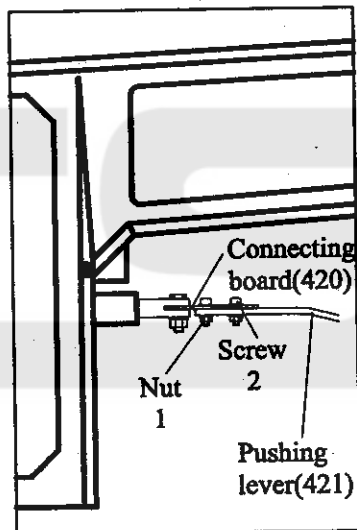

Fig 12
- Loosen nut 1 and screw 2, unconnecting the Connecting board (420) and the Pushing lever (421). (as shown in Fig 12)
To set the distance of needle bar be pushed, proceed as follows(Fig 12)